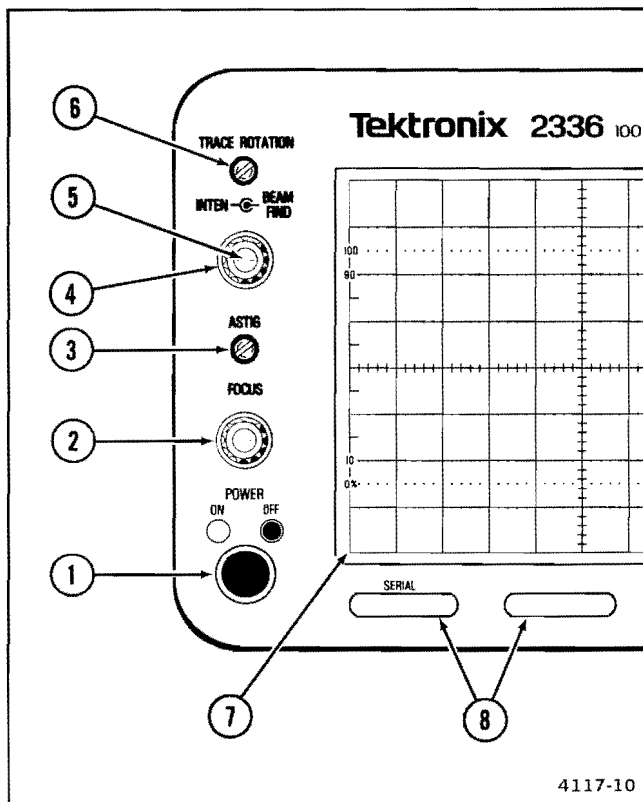

Figure 2-3. Power and display controls and indicators.
Refer to Figure 2-3 for location of items 1 through 8.
- ① **POWER Switch**—Turns instrument power on and off. Press in for ON; press again for OFF.
- ② **FOCUS Control**—Adjusts for optimum display definition.
- ③ **ASTIG Control**—Screwdriver control used in conjunction with the FOCUS control to obtain a well-defined display over the entire graticule area. It does not require readjustment during normal operation of the instrument.
- ④ **INTEN Control**—Determines the brightness of the crt display (has no effect when BEAM FIND switch is pressed in).
- ⑤ **BEAM FIND Switch**—When held in, compresses the display to within the graticule area and provides a visible viewing intensity to aid in locating off-screen displays.
- ⑥ **TRACE ROTATION Control**—Screwdriver control used to align the crt trace with the horizontal graticule lines.
- ⑦ **Internal Graticule**—Eliminates parallax viewing error between the trace and graticule lines. Rise-time amplitude measurement points are indicated at the left edge of the graticule.
- ⑧ **SERIAL and Mod Slots**—The SERIAL slot is imprinted with the instrument's serial number. The Mod slot contains the option number that has been installed in the instrument.